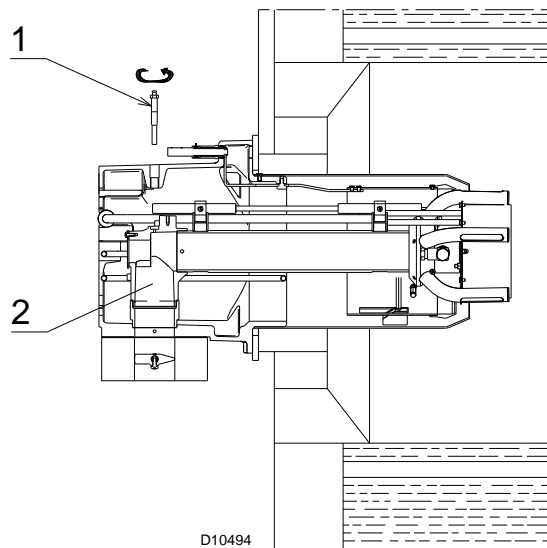

Fig. 16
- remove screw 1)(Fig. 16) and extract the nozzle assembly 2);